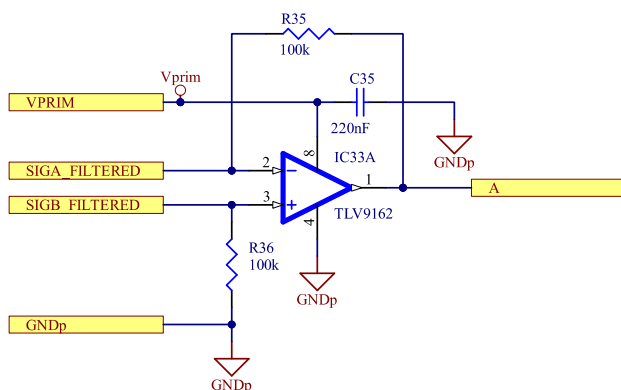

Figure 15: Signal amplifier of the receiver.
Figure 16 and Figure 15 show the simulation circuit diagram with the results. It can be clearly seen that the output voltage V(C) at the operational amplifier, i.e. the input voltage V(A,B) to the digital isolator, is almost independent of the input voltage.